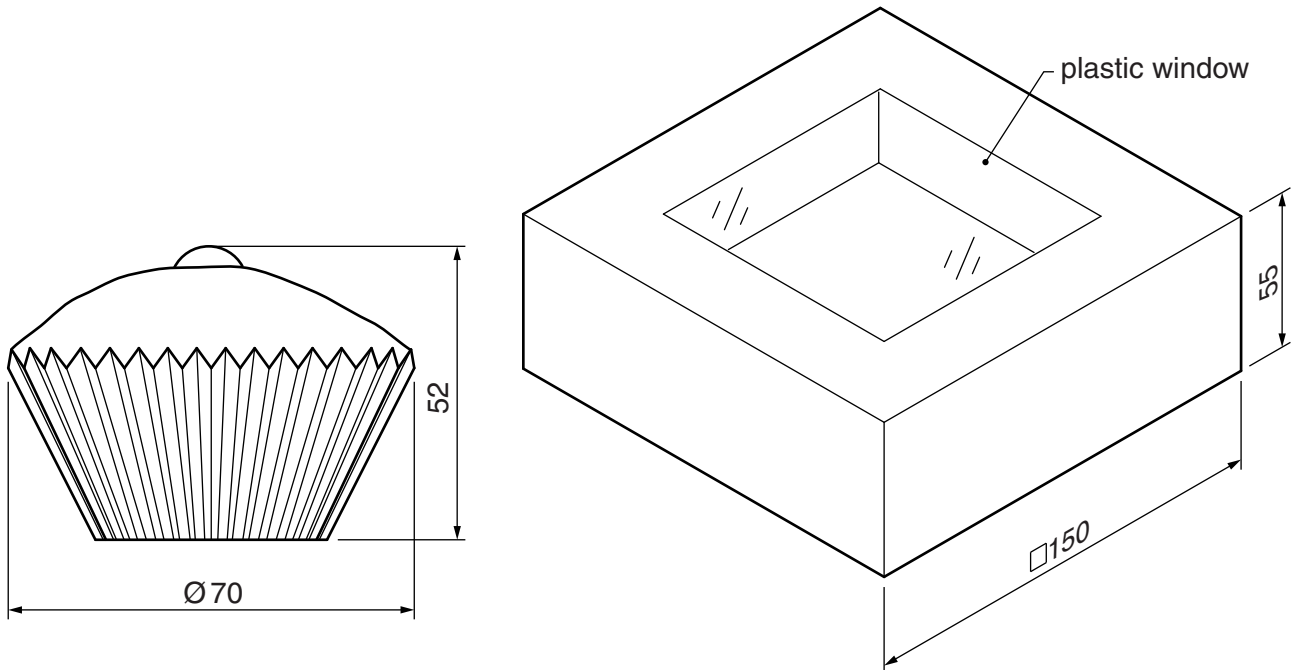

Fig. 8
- 8 Fig. 8 shows a cake and an incomplete idea for a card box which will package four of the cakes.